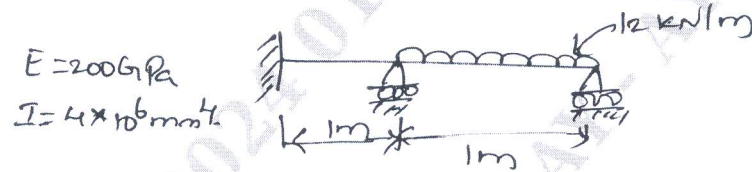

Fig.Q9
- 9 For beam element shown in Fig.Q9, determine deflection (vertical and slop) also find deflection at centre of the portion of bema carrying UDL.